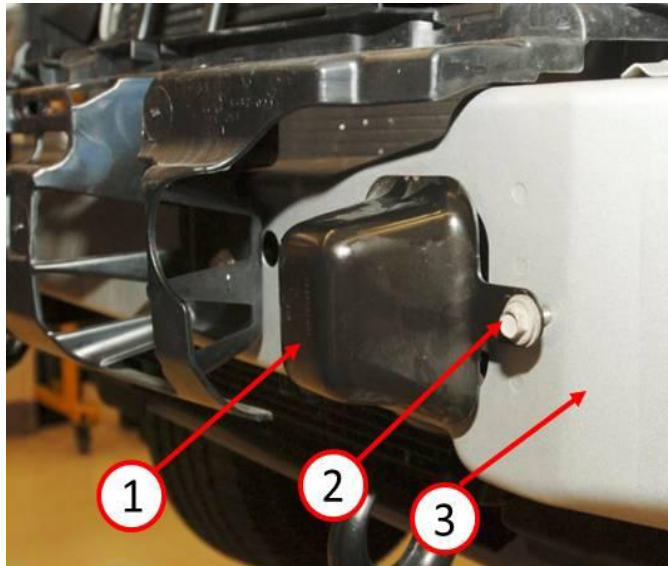

Fig. 5 Bumper Reinforcement Cap
2. Remove the bumper reinforcement cap on the right and left side (Fig. 5).
5. Install the bumper reinforcement cap on the left and right side (Fig. 5).